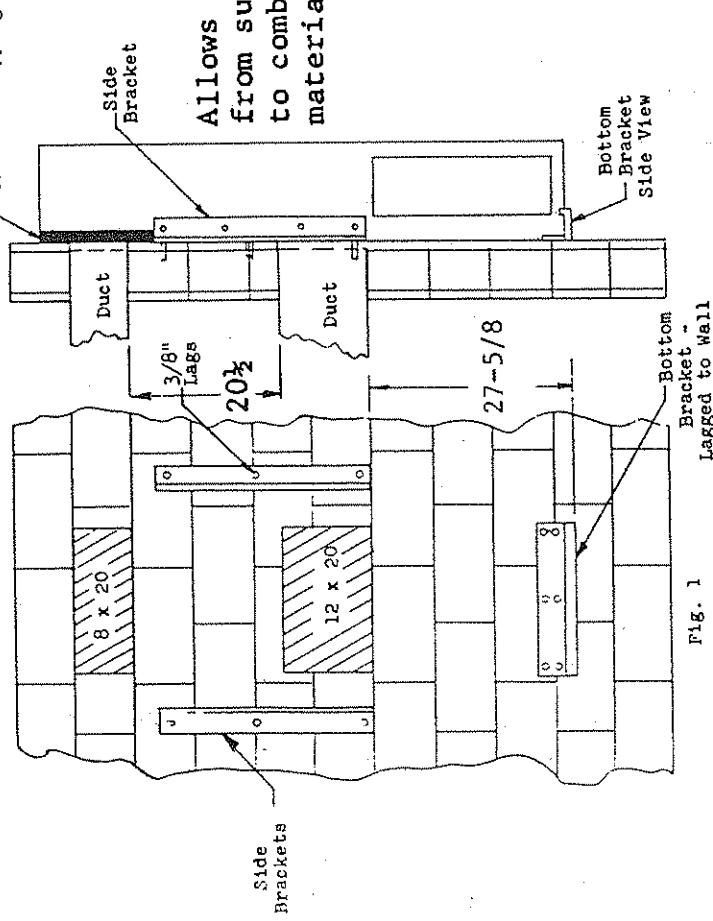

FIG. 1
1. Two holes, the size of the supply and return air openings must be cut through the wall as shown in Fig. 1 and 2 on page 5.
These units are secured by wall mounting brackets which secure the unit to the outside wall surface at both sides and at the bottom. (FIG. 1).